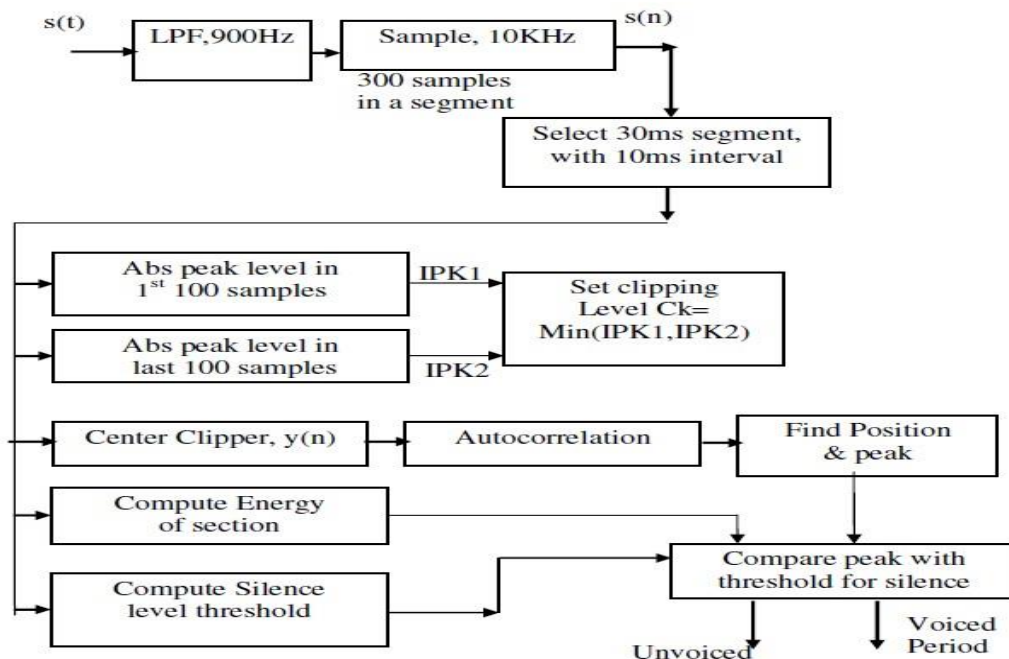

Fig. 8.15: Block Diagram of Clipping Autocorrelation Pitch Detector
- A three level clipping scheme is discussed here to measure the fundamental frequency of speech. The block diagram for the same is shown in fig. 8.15.